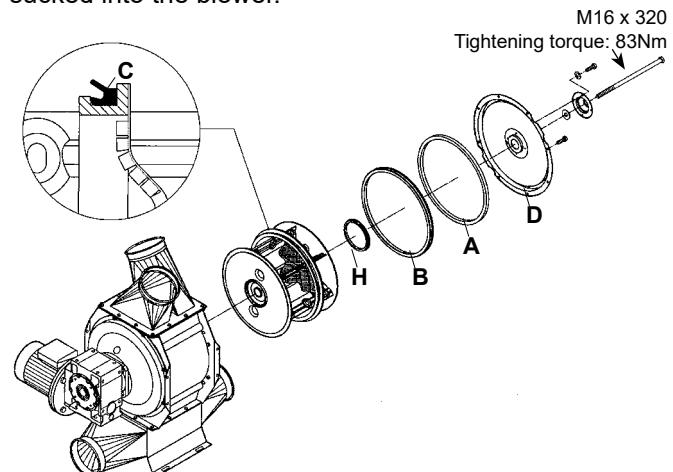

Fig. 5
On each side of the separator a two-piece sealing ring is mounted between the rotor and the end plate. The two-piece sealing ring consists of a pressure ring (A) and a sealing ring (B), see figure 5.
A sealing ring (C) is mounted on the middle of the rotor, see figure 5, avoiding suction of material into the blower. It is important that this sealing ring is working properly, as the blower may be damaged, if material is sucked into the blower.
**Please note:** Due to the design of the sealing ring (C) being mounted in the middle of the rotor (see figure 5), the easiest way to mount the rotor is to do it from the gear motor side. It is therefore recommended to dismount the gear motor and the end plates, so that the rotor can be mounted from this side.